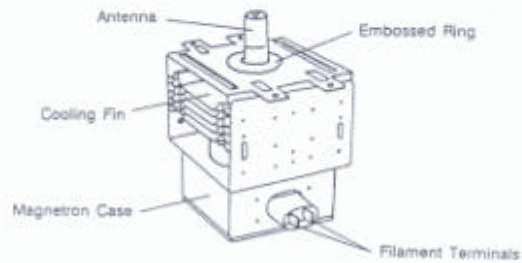

Fig. 10.2
- (1) To prevent microwave leakage, tighten mounting nuts properly making sure there is no gap between the waveguide and the magnetron.
- (2) Never install the magnetron without the embossed ring (refer to Fig. 10.2) which is packed with each magnetron to prevent microwave leakage.
10.4 Magnetron (Fig. 10.2)